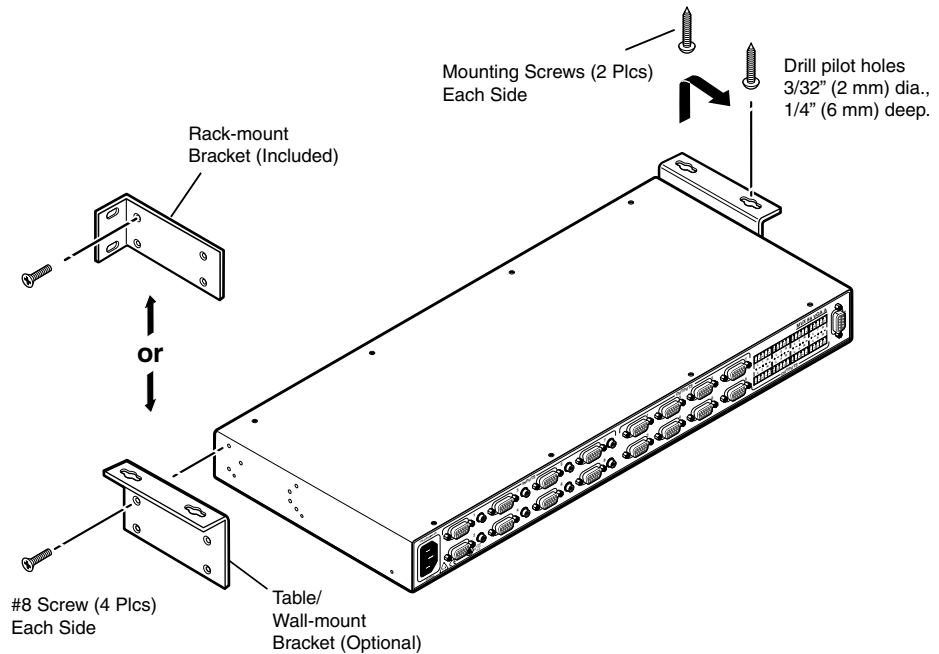

Figure 2-1 — Mounting the switcher
2. Attach the rack mount brackets to the switcher with the eight #8 machine screws provided (figure 2-1).
1. Secure the two table/wall mounting brackets to the switcher with the eight machine screws provided in the kit (figure 2-1).